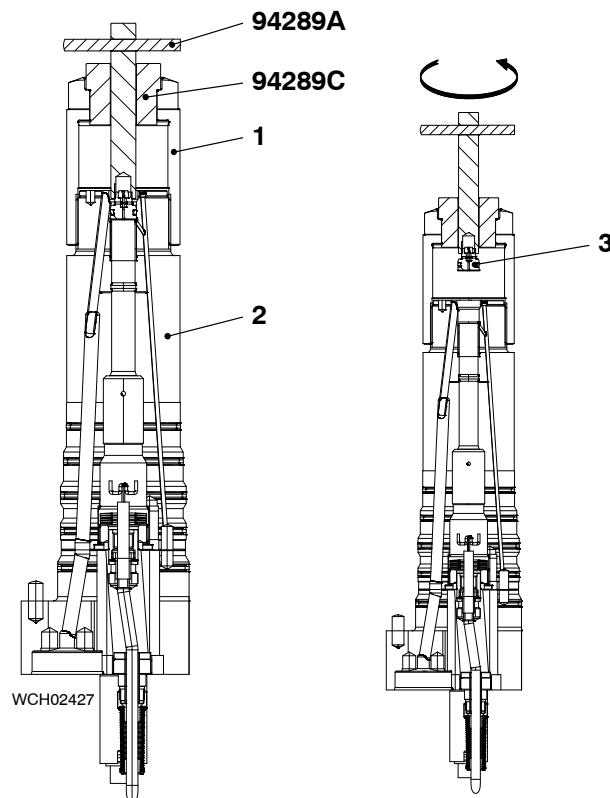

Fig. 3
- 1) Remove the pilot valve (3, Fig. 3) from the injection valve (2) as follows: